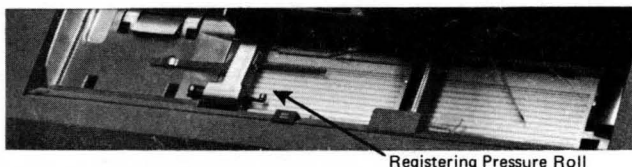

Figure 10. Card Bed
*Caution:* Improper manual registration of a card at the read station may cause dropping of punches during an auto duplication or key duplication operation. Therefore, when manually inserting a card at the read station, *do not push the card in all the way to the stop.* Insert the card about 1 inch beyond the pressure roll (Figure 10) so that the card will be machine-registered by the pressure roll when the register key is pressed.